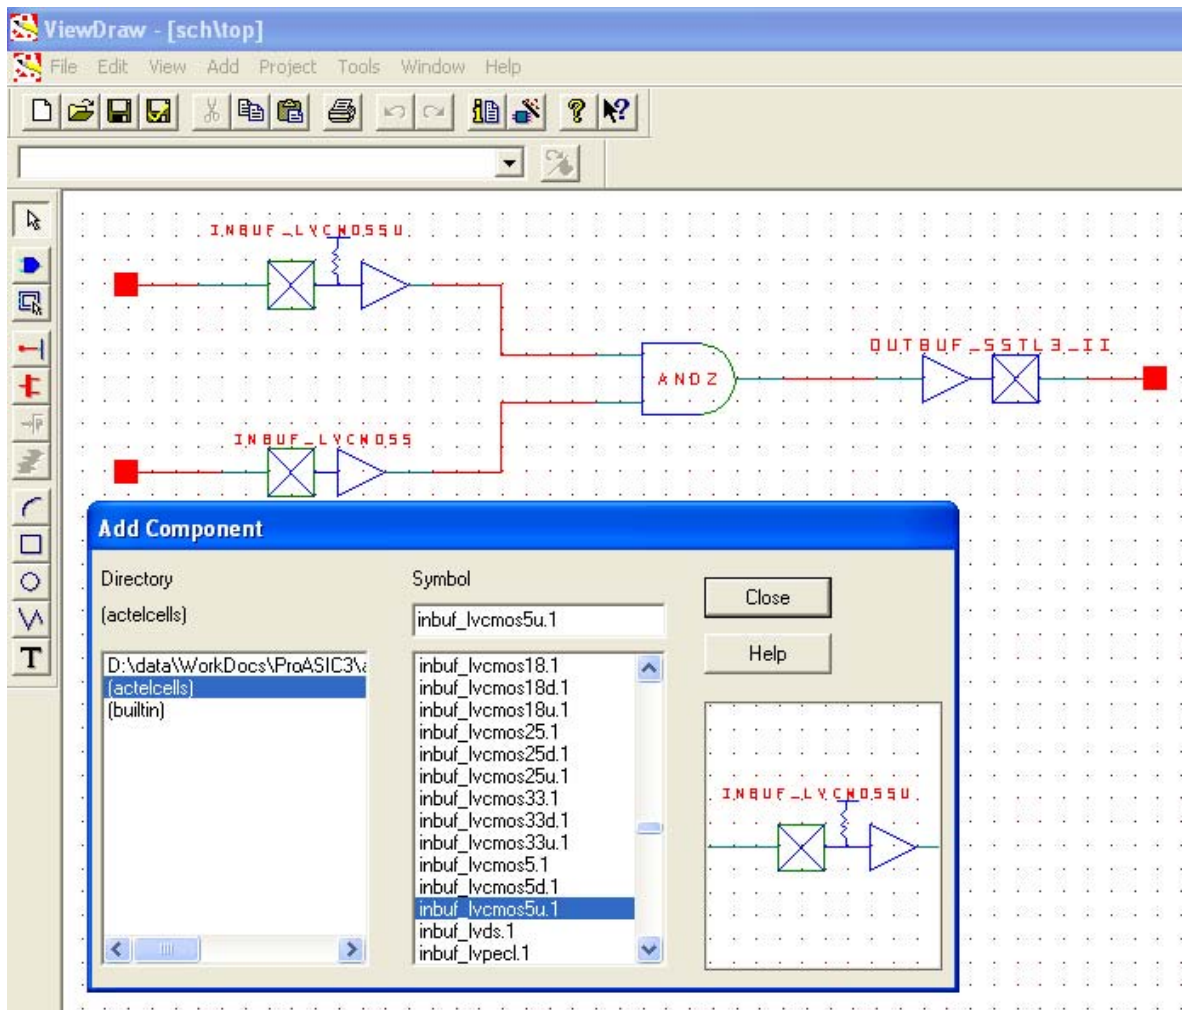

Figure 10-5 • I/O Buffer Schematic Cell Usage
5. Enter a name for the macro. Click **OK**. The core will be generated and saved to the appropriate location within the project files (Figure 10-5 on page 267).
Libero SoC software includes the ViewDraw schematic entry tool. Using ViewDraw, the user can insert any supported I/O buffer cell in the top-level schematic. Figure 10-5 shows a top-level schematic with different I/O buffer cells. When synthesized, the netlist will contain the same I/O macro.